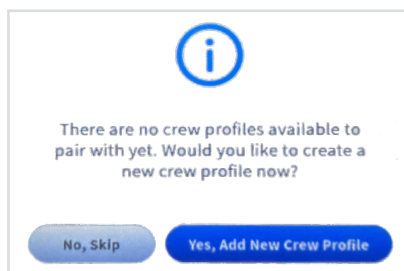

Fig. 1.22
- ** The person you are calling must be enrolled in the Crew Profile directory and wearing a headset. See Fig. 1.22 for example. You cannot call an individual if they are using the headset but not enrolled (i.e., the user selected “Continue as guest” when pairing). First names, last names, or full names can be used. For example, if two crew members have the same first name, the headset will prompt you to use the last name of the person you wish to talk to. The receiver must tap the Action key () on their headset to answer. To end the call, either person can tap the Action key () and exit this state.
Once your headset is successfully paired, one of two dialog boxes appears. If no crew profiles are set up in the system, Fig. 1.22 will appear. Tap the **No, Skip** button to continue as a guest (this opens the **Select Your Position** dialog, see Fig. 1.24). Or, tap the **Yes, Add New Crew Profile** button (this will open the Create Crew Profile dialog, see “Chapter 2 - Crew” on page 17 and Fig. 2.2).